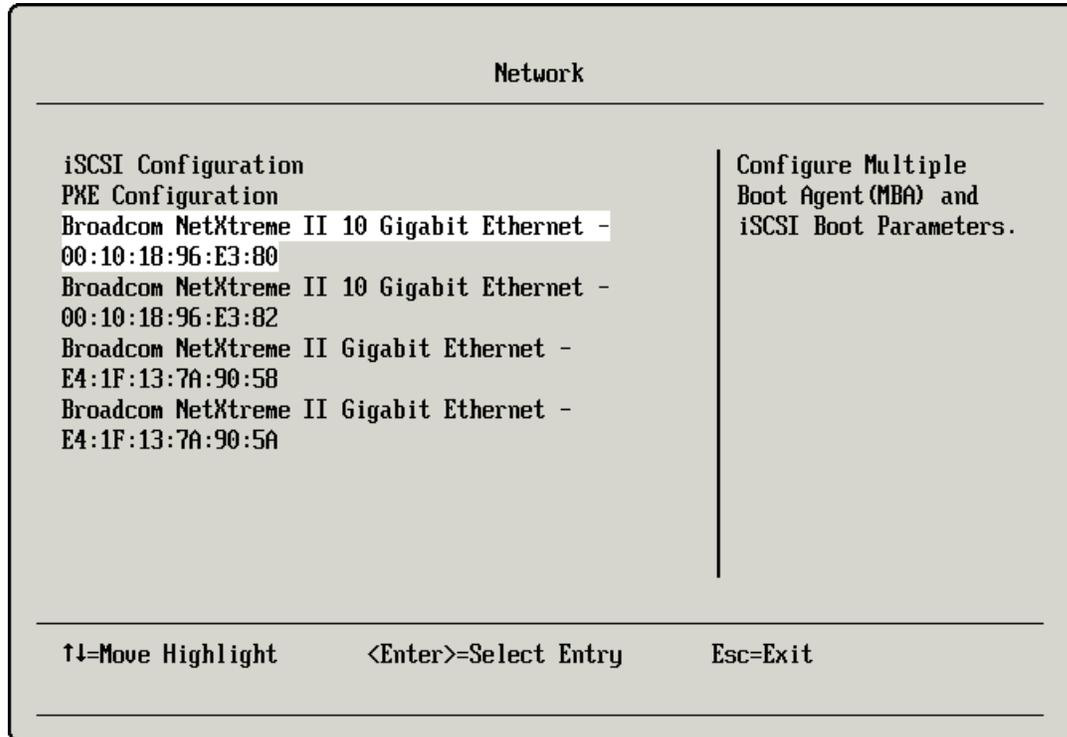

Figure 10-15 Network configuration: Selecting the first 10 Gbps port
5. In the Network panel (Figure 10-15), select the first of the two 10 Gbps physical ports to configure.
11. Configure NIC partitions and bandwidth parameters for the second 10 Gbps physical port, starting with Figure 10-15 on page 257.